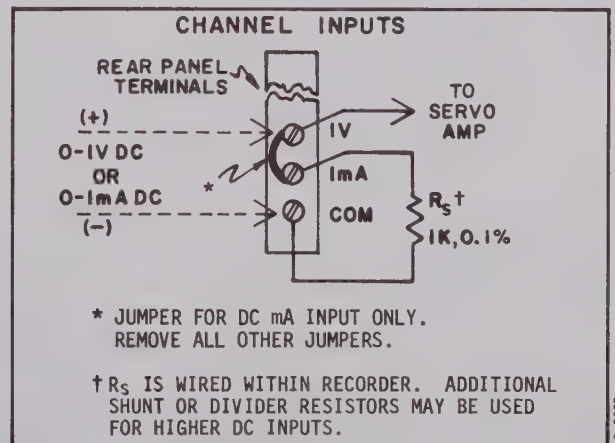

Figure 3-1. DC Analog Connections to Channel Inputs.
(3) To record 0-1V DC signals, completely remove jumper W101 from MODULE OUTPUT and CHANNEL INPUT terminals of recording channel. Connect external "+" DC source lead to CHANNEL INPUT terminal labeled "1V", and "-" source lead to terminal labeled "COM". Refer to connection diagram of Figure 3-1.
(4) To record 0-1mA DC signals, disconnect jumper W101 from MODULE OUTPUT terminal of recording channel and connect detached end to CHANNEL INPUT terminal labeled "1mA". Observing polarity, connect external DC circuit in series with CHANNEL INPUT terminals labeled "1V" and "COM" as shown in Figure 3-1.